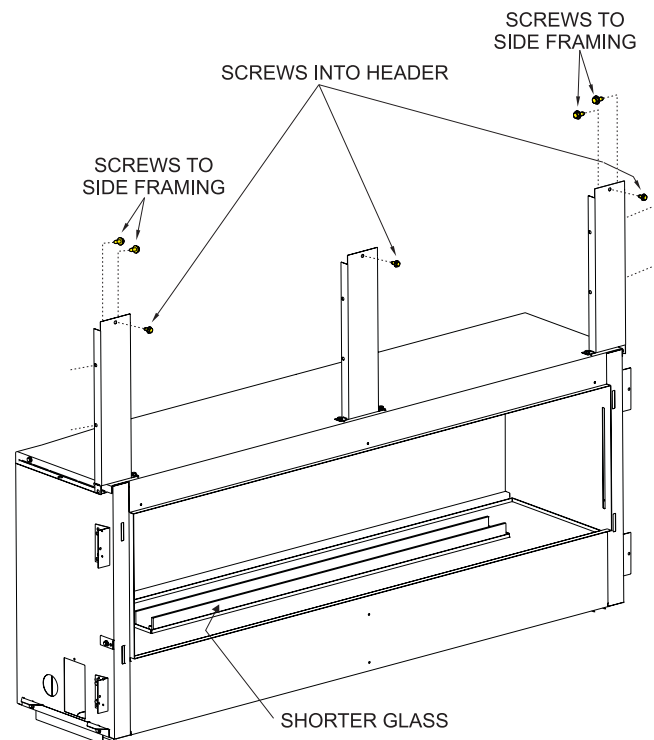

Figure 21
4. Secure three middle mounting brackets with drywall screws to the framed opening above the fireplace as shown in **Figures 21 to 23**. The brackets should be installed to support the ends of the non-combustible board. Note: The drywall screws are located in the instruction envelope packet. Secure the left and right framing standoffs to the side framing as shown in figure 21. Secure fireplace on left and right through side framing brackets.
12. Retrieve shorter glass and install in front of burner. **See Figure 21**.